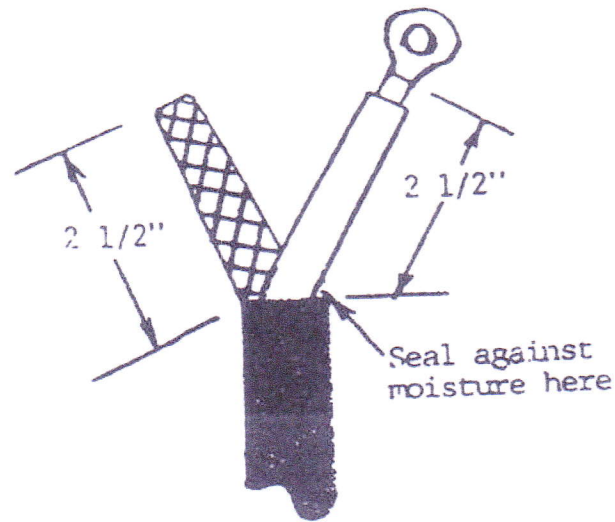

Figure 12
- 12) Prepare your two 50 ohm coax cables as shown in fig.12 below. The crimp terminals supplied may be simply crimped to the coax center conductor, however soldering is recommended in addition to crimping. One coax line is attached to each stub wire as shown in fig.13 a,b below. A good starting point for attachment of the coax to the stub is about 2" in from the insulator. The coax center conductor goes to the bare stub wire, and the braid simply is clamped directly to the boom, directly opposite the center conductor point of attachment, by means of a hose clamp.